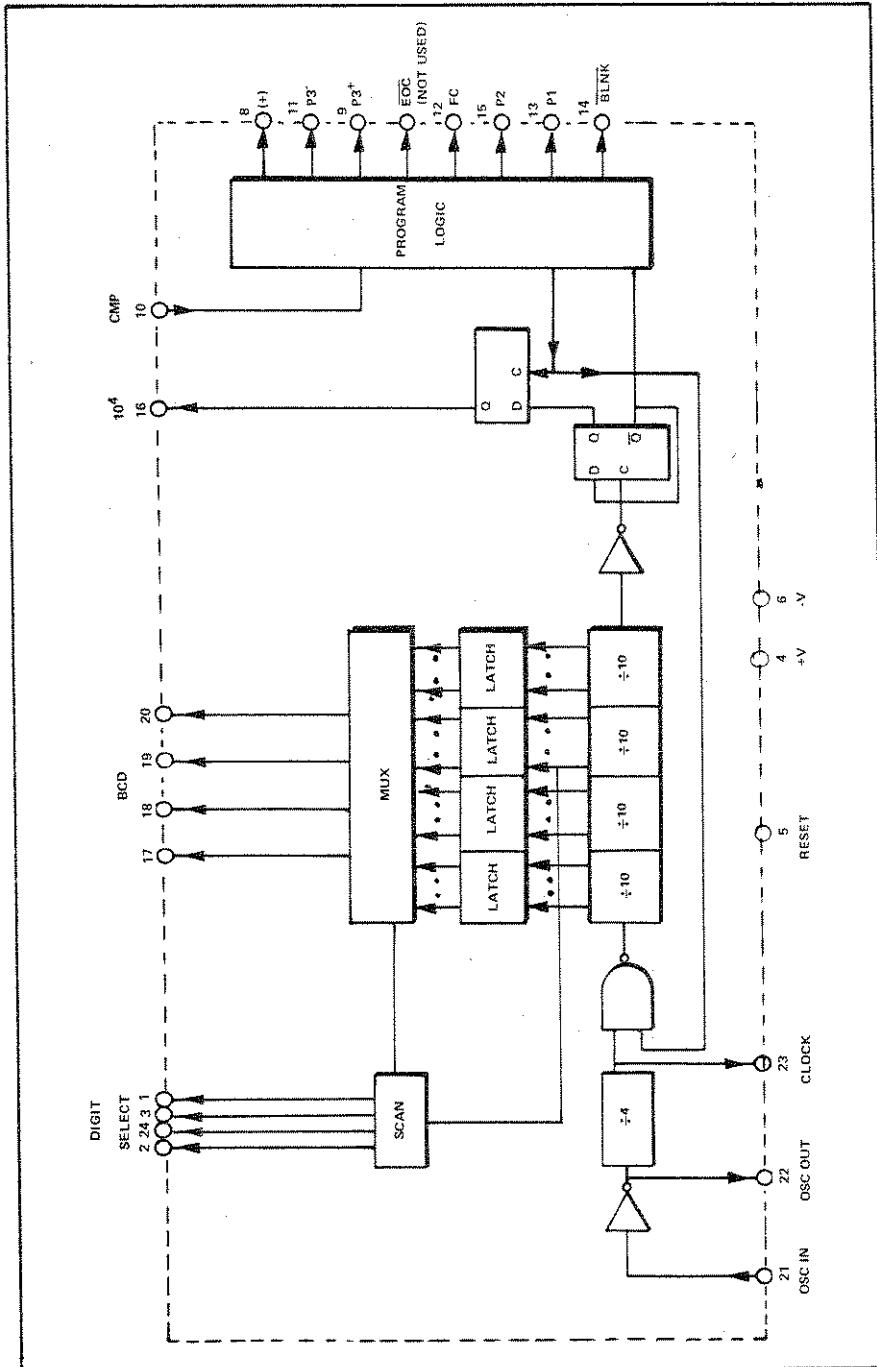
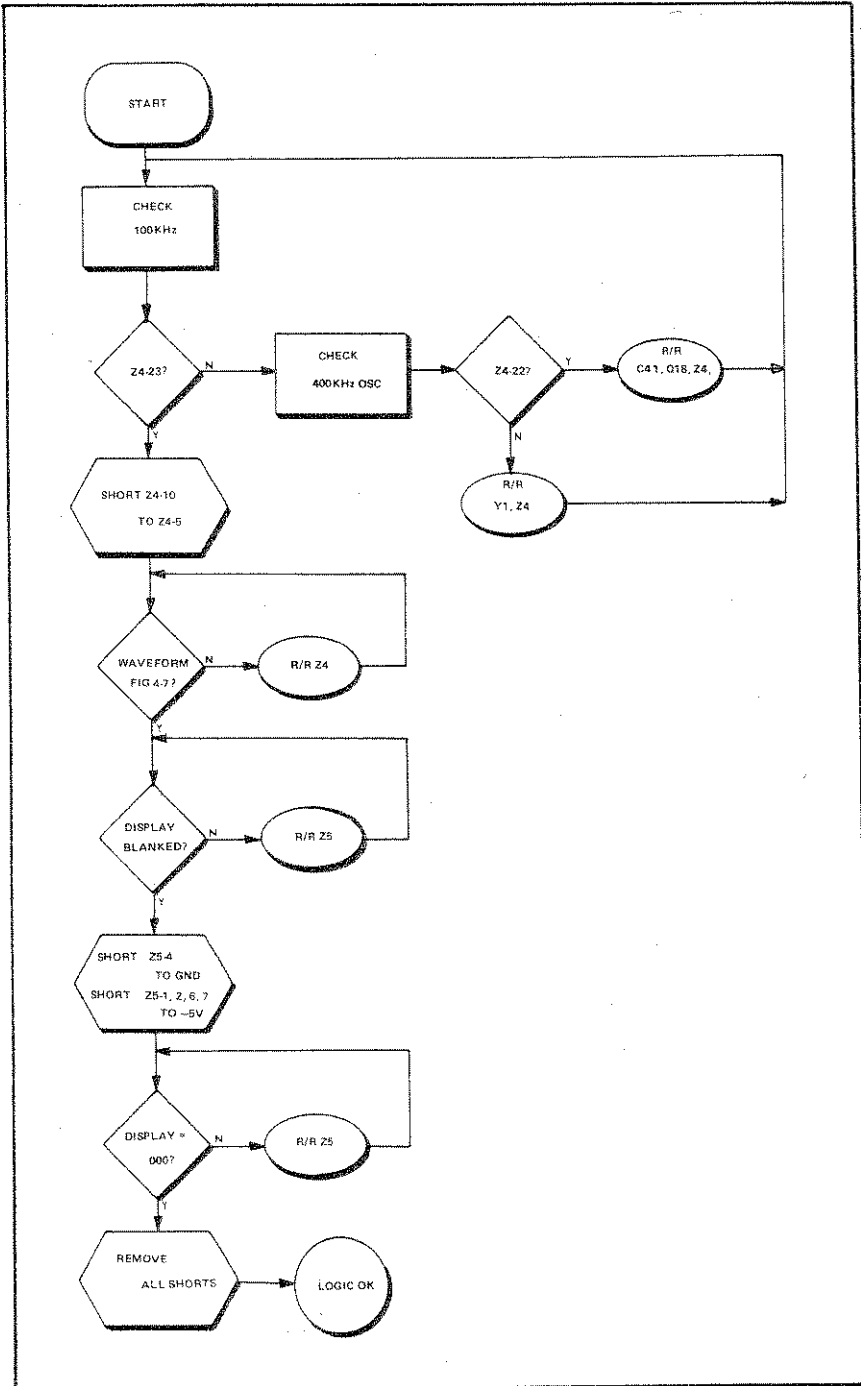

Fig. 3-6. Digital Logic Block Diagram
Fig. 4-6. Test TS4-3, Digital Logic
a. The digital logic programmer circuitry is contained entirely on one CMOS solid state component, Z6. It contains (Fig. 3-6):
All the digital logic functions are essentially implemented in two CMOS chips, Z6 and Z7. The separate and sometimes independent functions performed by these LSI circuits are checked as shown in Figure 4-6. Proceed as shown below. (A simplified block diagram of Z-6 is shown in Figure 3-6.)